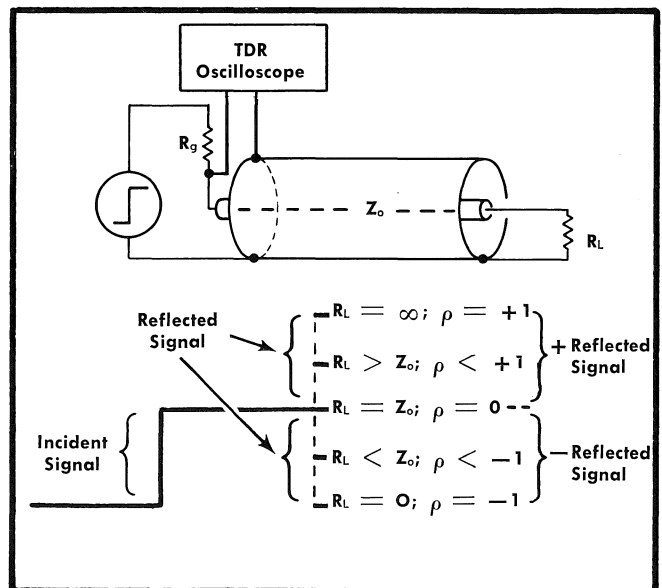

Fig. 2-9. TDR oscilloscope displays for various values of R_L vs Z_o .
tude (the display total amplitude minus the incident pulse amplitude) divided by the incident pulse amplitude. Fig. 2-9 shows the two parts of the display appropriately labeled to identify the incident and reflected signals.
Formula (3) applies to any display that results from a purely resistive load. The load shown in Fig. 2-9 is assumed to be at the end of a lossless coaxial transmission line.